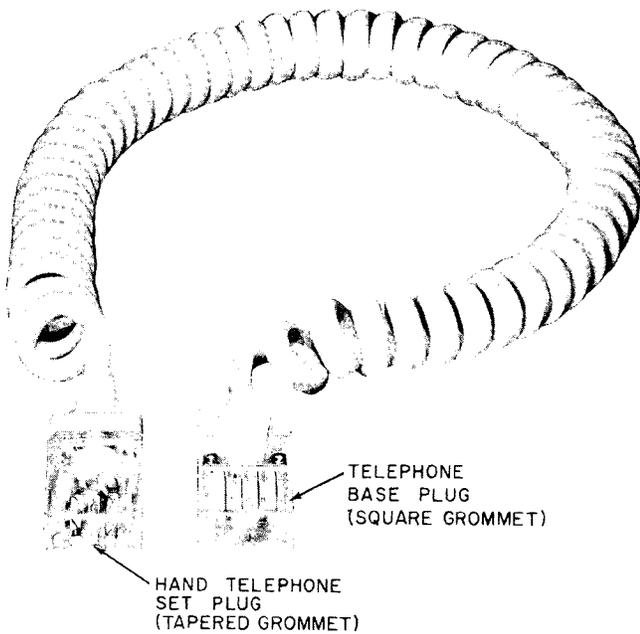

Fig. 3—H4DB Cord
- (1) Connect the 220A or 1220A hand telephone set to a telephone base by plugging the 5-1/2 foot H4DB cord (Fig. 3) into the jacks on each component.